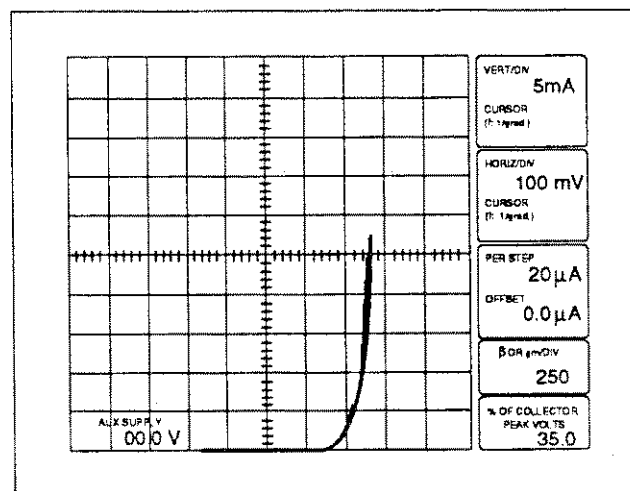

Figure 3-8. IC vs. VBE for 10 steps of base current.
18. Set the Step Generator PULSE control to OFF and the HORIZONTAL control counterclockwise to 100mV BASE/EMITTER. Note the display of the collector current vs base-emitter voltage for ten different values of base current (see Figure 3-8).